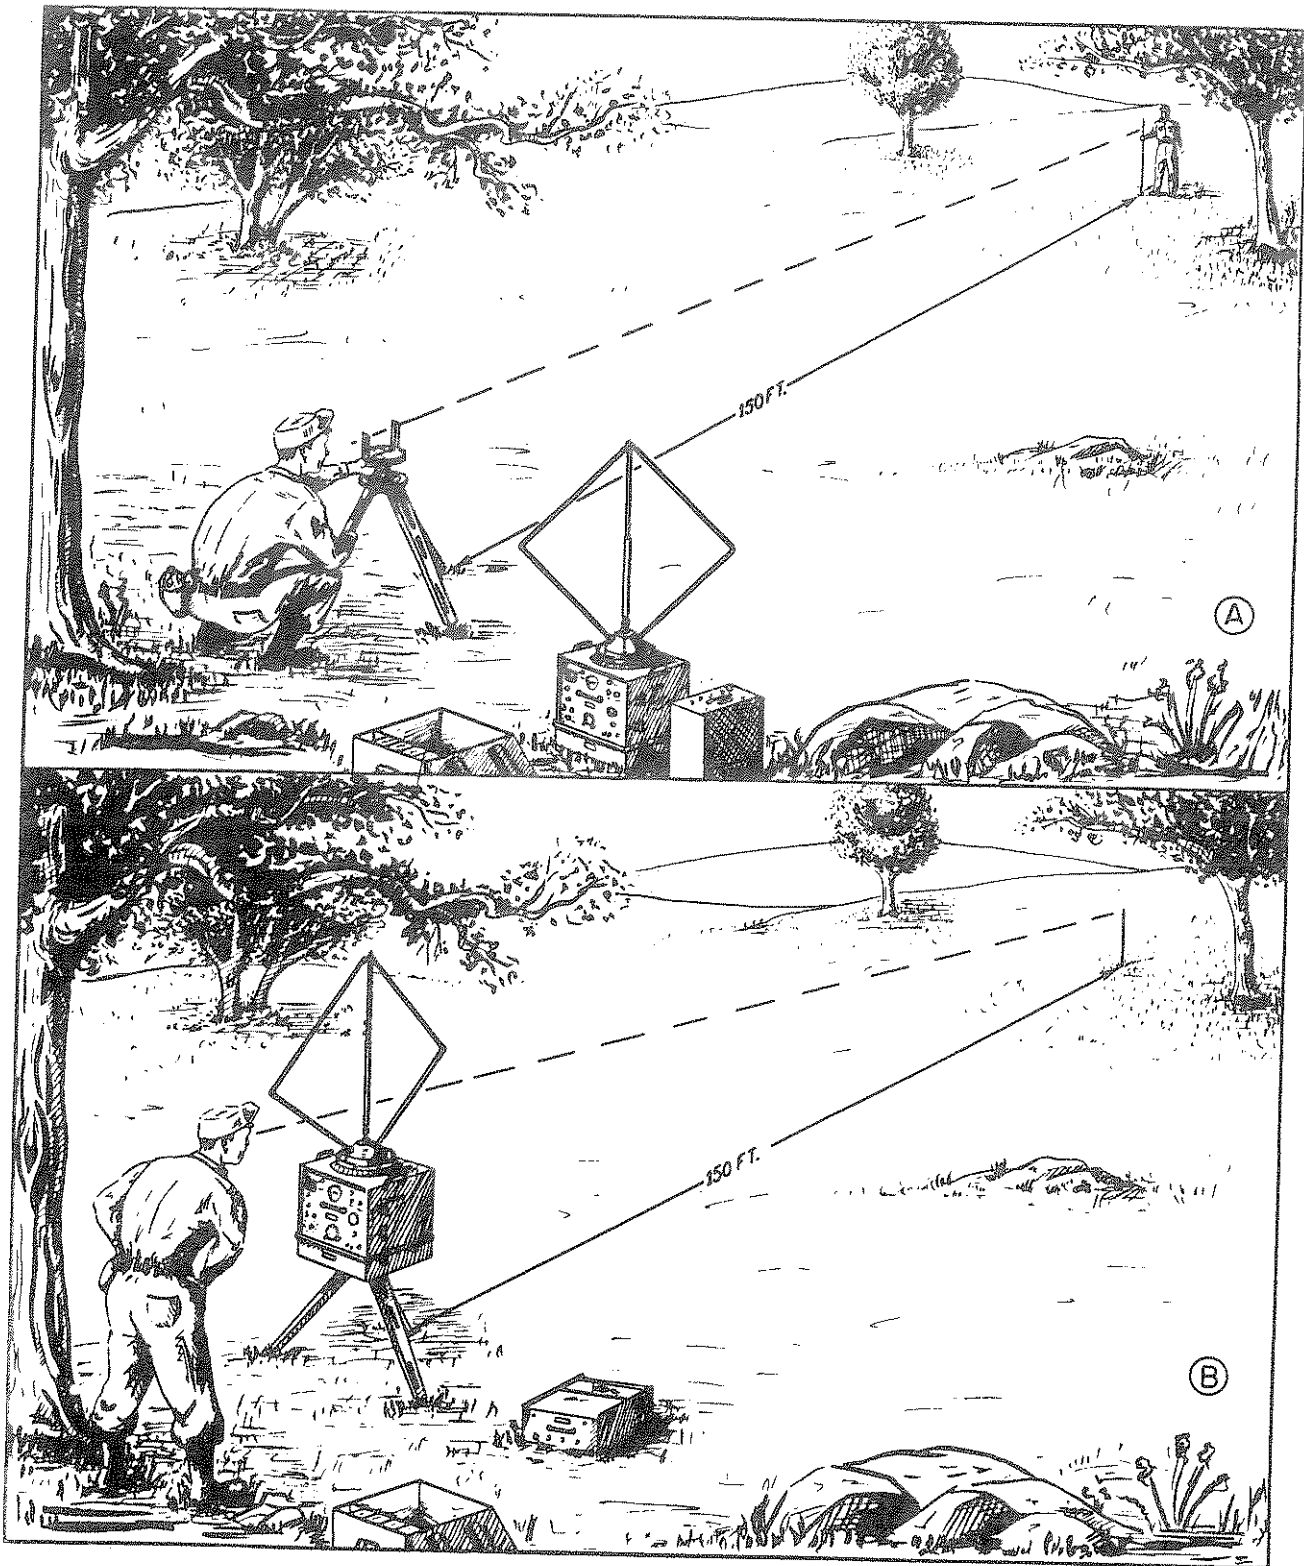

Figure 27. Method of orienting the direction finder.
- (3) Set up the tripod (par. 13) with one leg oriented north (A, fig. 27) so that the remaining two legs will not interfere with the operator.
- (4) Adjust the tripod until the air bubble is in
- (5) Rotate the compass until the sights and the needle of the compass coincide at magnetic north. Check as indicated in subparagraphs (2) above to make sure that the compass and the tripod are aligned properly.
- (6) Have an assistant hold a sighting stake approximately 150 feet from the compass (A, fig. 27). Locate the stake by means of the compass sights, *exactly* in the mag-
- (9) Loosen the three antenna mount locking screws so that the N marked on the head faces the stake. Line the edges of the loop with the stake (B, fig. 27). Tighten the antenna mount locking screws. The antenna is now oriented to magnetic north, and rotating the antenna by means of the turning handle will give correct azimuth readings on the azimuth scale.